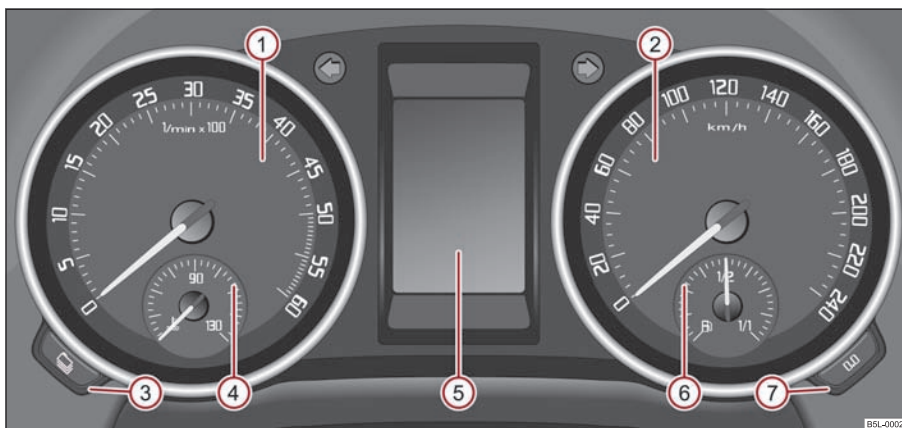

Fig. 15 Instrument cluster
The red zone of the rev counter scale ① ⇒ fig. 15 indicates the range in which the engine control unit begins to limit the engine speed. The engine control unit restricts the engine speed to a steady limit value. ►
The coolant temperature gauge ④ ⇒ page 15, fig. 15 operates only when the ignition is switched on.
The fuel gauge ⑥ ⇒ page 15, fig. 15 only operates when the ignition is switched on.
If you hold the reset button  \Rightarrow page 15, fig. 15 pressed for about 1 second, the trip counter is set back to zero.
You can use the button  to display the remaining distance driven and the days until the next service interval \Rightarrow page 15, fig. 15.
Reset the service interval displays by using the reset button (7) ⇒ page 15, fig. 15 on the trip counter.